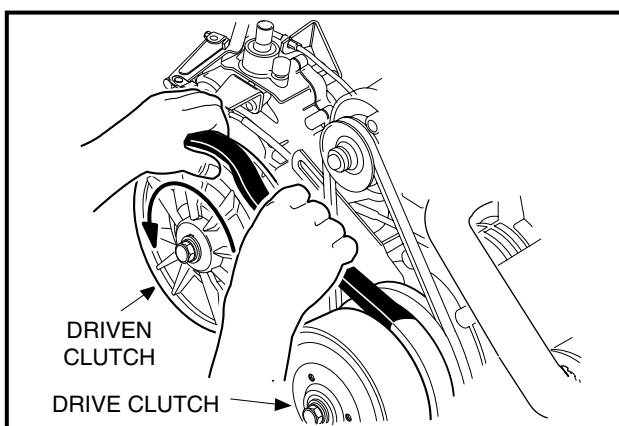

Figure 16a-33 Remove Drive Belt
17. Remove the driven clutch retaining bolt and remove the driven clutch from the unitized transaxle (**Figure 16a-34, Page 16a-17**).